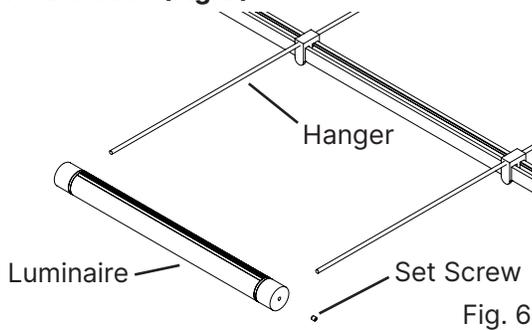

Fig. 6
1. Gently press both sides of the **Ladder Light** onto the Luminaire **Hanger** until the Ladder Light softly clicks into place (Fig. 6).
1. Align **Linear Rotational Luminaire** with both **Hangers** (Fig. 6).